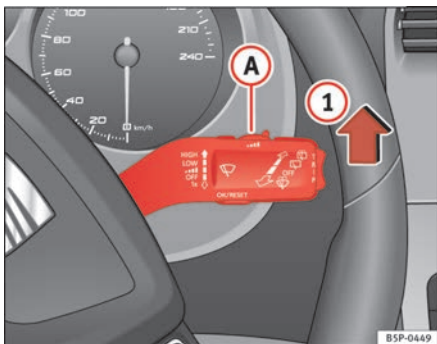

Fig. 87 Windscreen wiper lever
- Move the windscreen wiper lever into position ① ⇒ fig. 87.
- Move the control ① to the left or right to set the sensitivity of the rain sensor. Control to the right: highly sensitive. Control to the left: less sensitive.